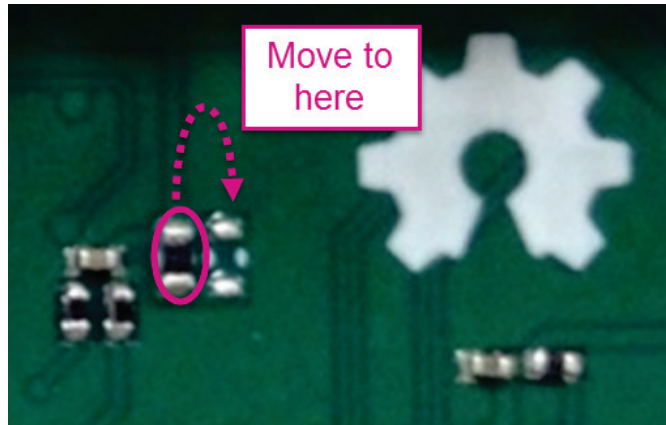

Figure 8 Moving a resistor to access JTAG mode
- 2) Next, you will move a resistor by unsoldering and soldering it to a lower position as shown in Figure 8, after you're finished moving the resistor, restart the device and you should be able to access JTAG mode.